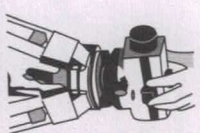

Fig. 3
- (3) Set the instrument on the tripod head B and tighten it (Fig. 3).